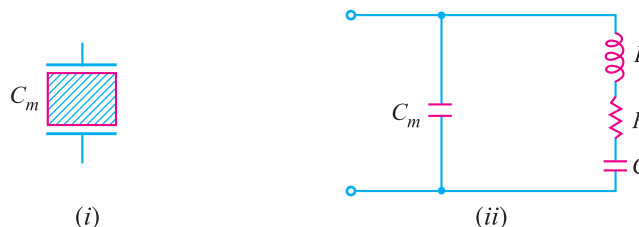

Fig. 14.21
- (i) When the crystal is not vibrating, it is equivalent to capacitance C_m because it has two metal plates separated by a dielectric [See Fig. 14.21 (i)]. This capacitance is known as *mounting capacitance*.
- (ii) When a crystal vibrates, *it is equivalent to $R-L-C$ series circuit. Therefore, the equivalent circuit of a vibrating crystal is $R-L-C$ series circuit shunted by the mounting capacitance C_m as shown in Fig. 14.21 (ii).